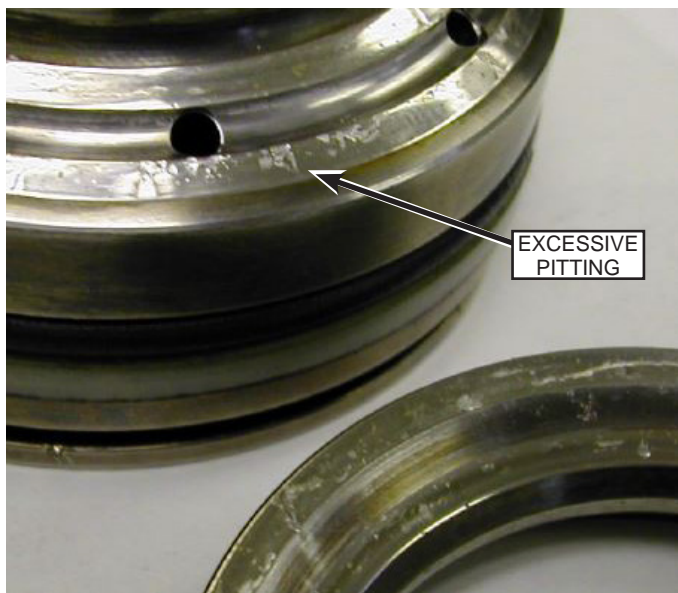

Fig. 107: Valve Pitting
2. Inspect the valve components. Discard excessively pitted or otherwise damaged components. Refer to Fig. 107.